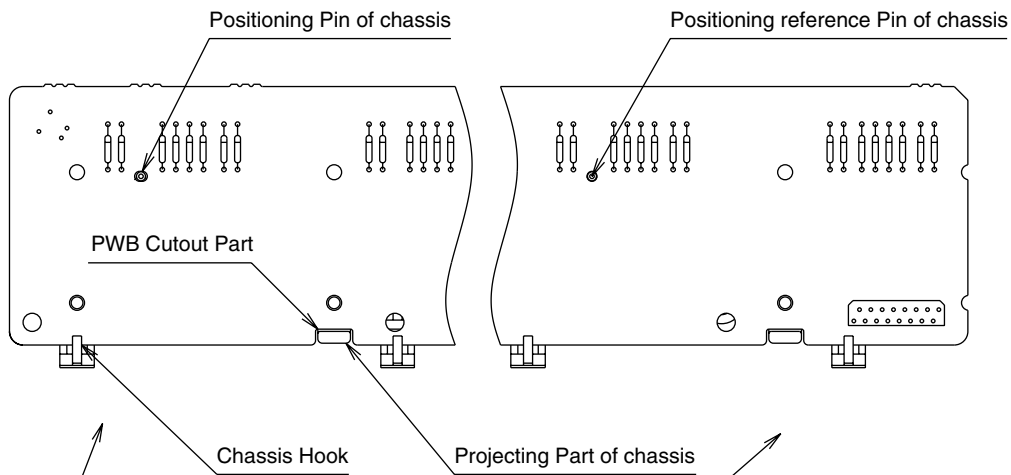

Fig.3
2) Align notch of the LOW PCB with projection from the chassis and then insert the PCB into the chassis hook until the chassis's positioning reference pin (located closest to the connector, (Fig.4) fits into the positioning reference hole of the PCB(Fig.3). Then, engage all pins with holes. Repeat above steps for the HI PCB.